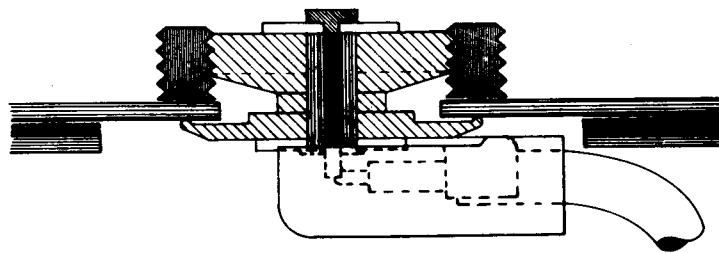

Figure 9. Roof Mount in Vehicle With Dome Light or Removable Headlining
Step 5. Complete the installation per installation procedure given for vehicles with single wall construction. A completed mount is illustrated in Figure 9.